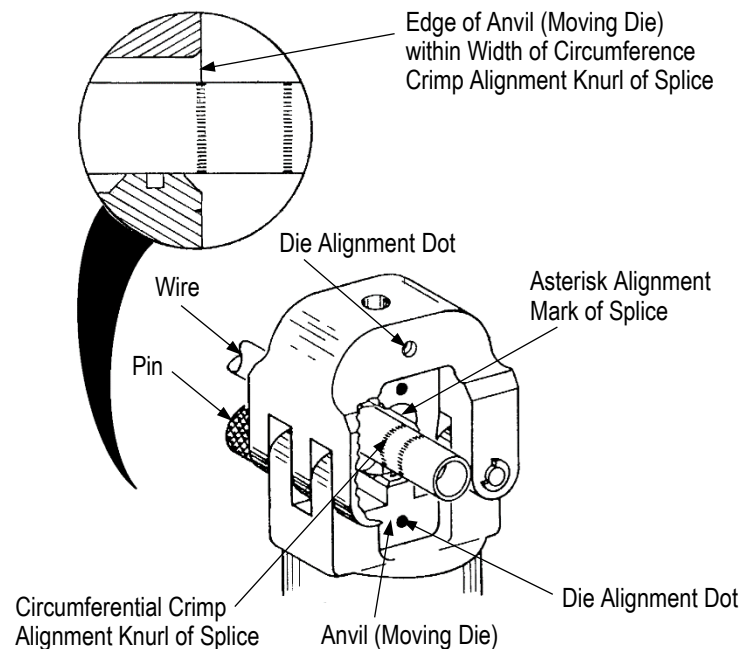

Figure 5
3. Position the splice in the stationary die (nest) so that edge of the die is within the width of the circumferential crimp alignment mark of the splice. The asterisk alignment mark on the splice must be inside the die, facing up, and in alignment with the alignment dot of the die. See Figure 5.
6. To crimp the other wire barrel of the splice, rotate the splice or crimping head 180 degrees, and position the splice in the die so that the asterisk alignment mark on the splice is inside the die, facing up, and in alignment with alignment dot of the die. See Figure 5. Follow the same steps used to crimp the first wire barrel (Steps 1 through 5).
2. Position the splice in the stationary die (nest) so that edge of the die is within the width of the circumferential crimp alignment mark of the splice. The asterisk alignment mark on the splice must be inside the die, facing up, and in alignment with the alignment dot of the die. See Figure 5.
7. To crimp the other wire barrel of the splice, rotate the splice or crimping head 180 degrees, and position the splice in the die so that the asterisk alignment mark on the splice is inside the die, facing up, and in alignment with alignment dot of the die. See Figure 5. Follow the same steps used to crimp the first wire barrel (Steps 1 through 5).